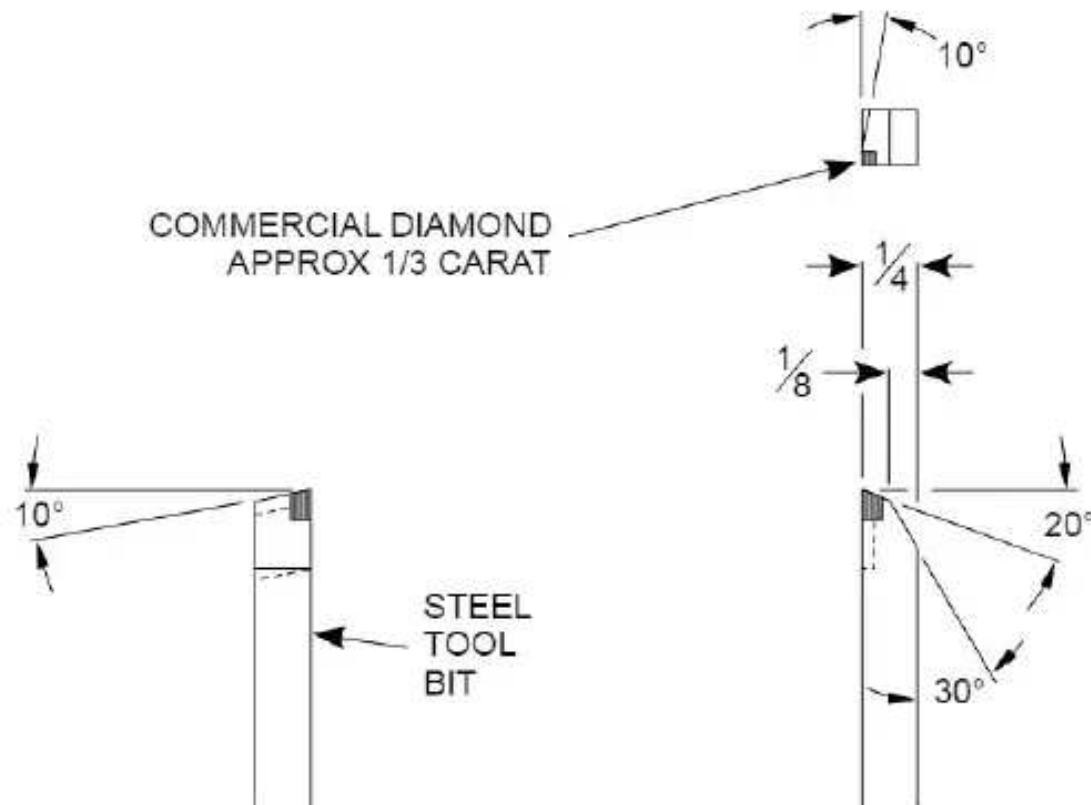
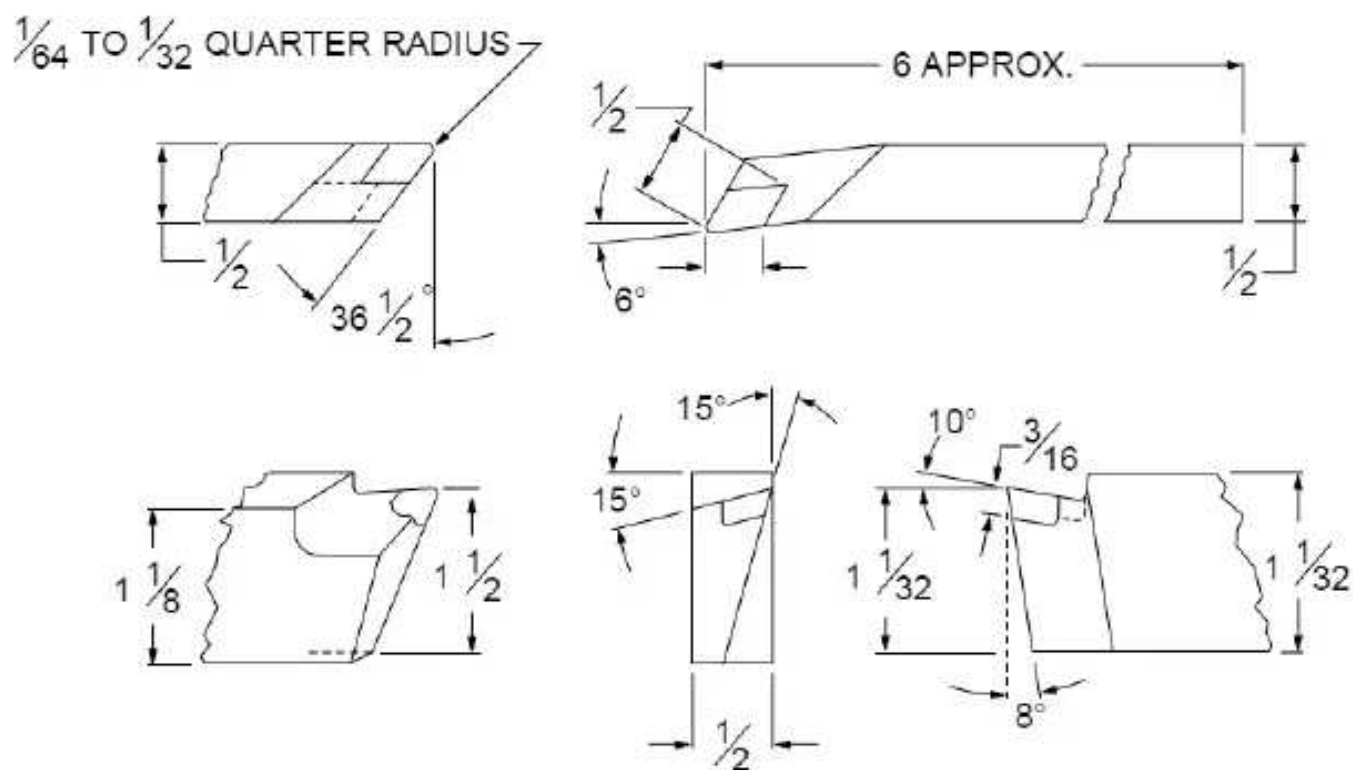
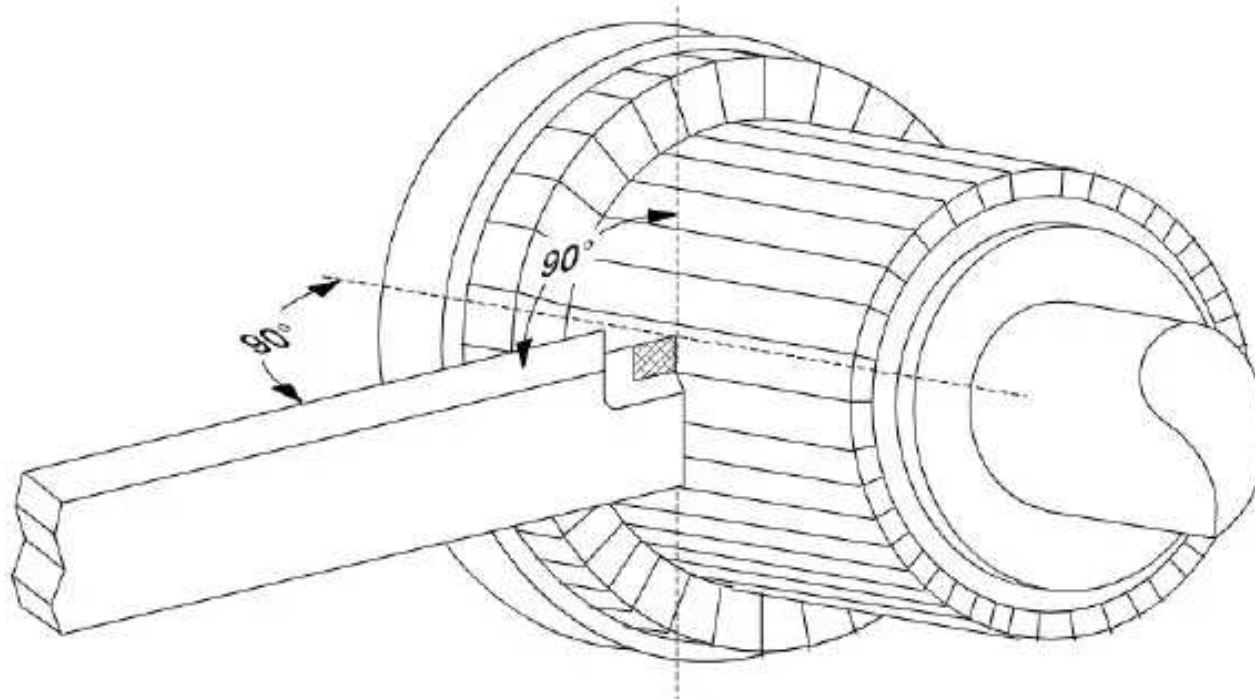

Figure 3-3
Figure 3-4
Figure 3-5
- a. At each overhaul, cut the commutator to remove wear marks, oil or carbon film. A diamond tipped cutting or a carboloy – tipped commutator cutting tool is recommended (See Figures 3-3 & 3-4). The amount of material to be removed is relative to the condition of the commutator surface. Surface should be smooth and free of damage. The point of the cutting tool must be held on the centerline of the armature shaft. (See Figure 3-5). If a carboloy-tipped commutator cutting tool (See Figure 3-4) is used, the point of the cutting tool must be held .0312 in. (.7924 mm) below the center line of the armature shaft. The minimum diameter to which the commutator may be turned down is 1.960 in.